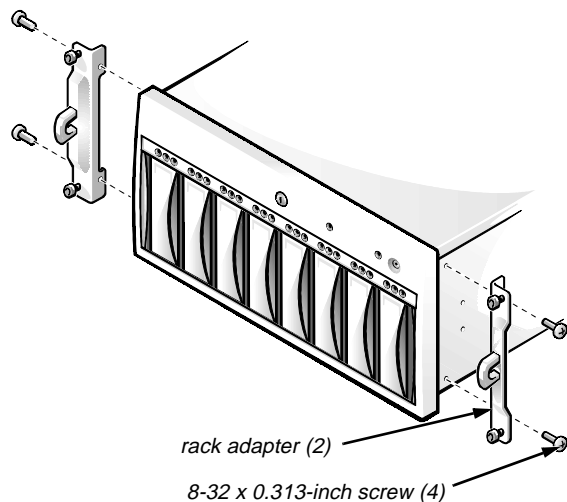

Figure 2-12. Installing the Rack Adapters
2. **Install the rack adapters on the front of the storage system (see Figure 2-12).**